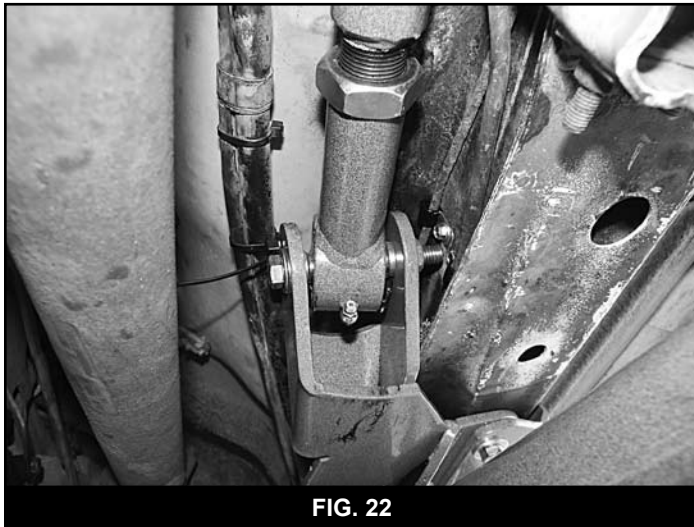

FIG. 22
59. Install the new upper control arms into the new upper control arm pockets in the crossmember (Fig 22). Fasten the arms with 7/16" x 3-1/2" bolts and 7/16" SAE washers into the welded nut on the crossmember. Use Loctite® on the bolt threads. **Note:** In some cases it may be necessary to loosen the exhaust to gain clearance for installing the passenger's side control arm bolt. Torque the 7/16" bolts to 50 ft-lbs.